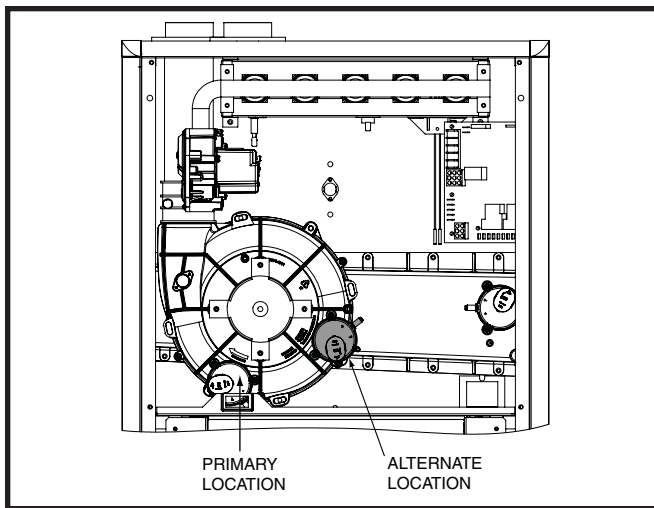

Figure 18. Alternate Pressure Switch Location
2. Label and disconnect the tubing and wires from the pressure switch (Figure 18, page 20).